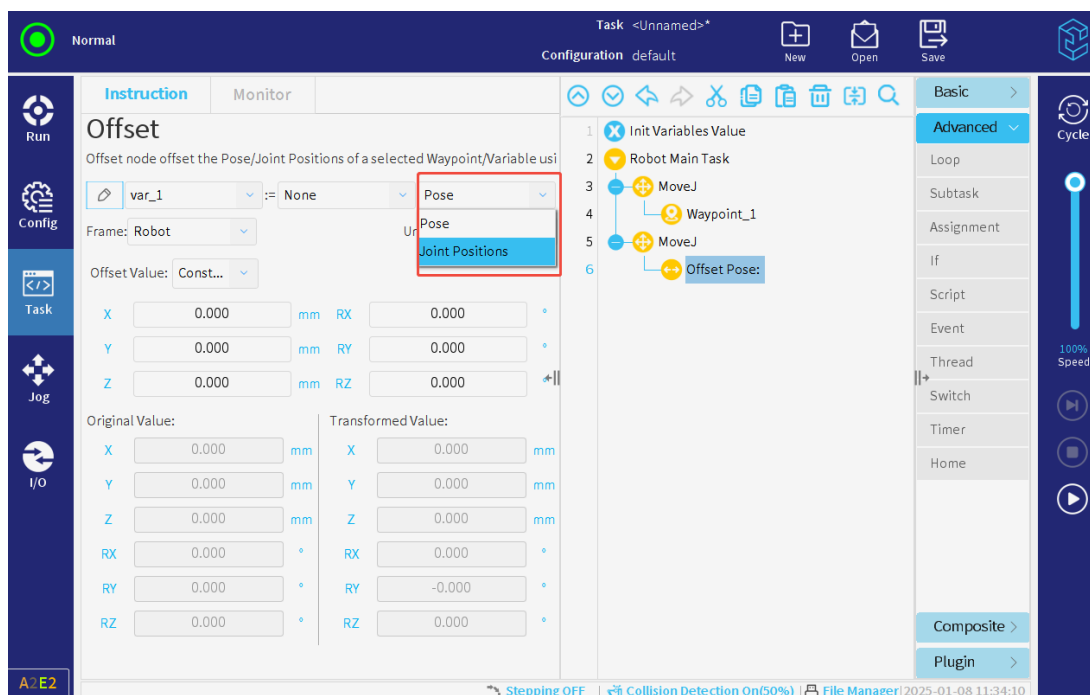

Figure 3-111 : Select Data Type for the Waypoint
- If the data source is a waypoint, then tap the last box at the first line to select "Pose" or "Joint Positions" as the data type for the waypoint, as shown in Figure 3-111 .